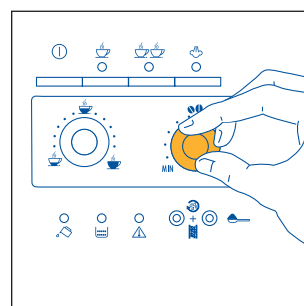
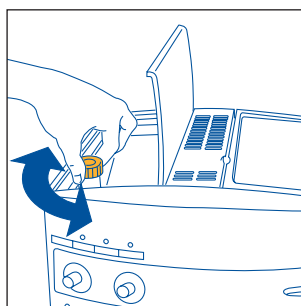

Fig.7
Fig. 17
- 2) Adjust the right-hand knob (Fig. 7) to set the desired taste of the coffee. Turning the knob clockwise increases the quantity of coffee beans that the machine will grind, and thus makes the taste of the coffee stronger. When using the machine for the first time, the correct position of the knob can be found by trial and error. Make sure not to turn it too far clockwise, otherwise the coffee will be delivered too slowly (in drops), above all when preparing two cups of coffee.
**NOTE 1:** If the coffee is delivered a drop at a time or not at all, turn the grinding coarseness regulator (fig. 17) one click clockwise (see para. 6). Turn a click at a time until the coffee is delivered satisfactorily.
**NOTE 2:** If the coffee is delivered too fast and is not creamy enough, turn the right-hand knob (fig. 7) clockwise. Proceed by trial and error to find the correct position of the knob. Make sure not to turn the knob too far clockwise, otherwise the delivery may become too slow (in drops), above all when making two cups of coffee. If, after several coffees, the cream is still not satisfactory, also turn the grinding adjustment knob (Fig. 17) one click clockwise (see para. 6).
**NOTE 8:** the grinder in the coffee maker may become worn over time and consequently the coffee will change taste as it is ground more coarsely. To resolve this problem, re-set the grinding coarseness on the coffee grinder by adjusting the knob (Fig. 17) one click anticlockwise (as described in chap. 6).
Nonetheless, after having made the first coffees, if delivery is too fast or too slow (in drops), the grinding coarseness must be adjusted using the knob (Fig.17) located inside the bean container. Turning one click (one number) clockwise achieves faster delivery of the coffee (without drops).